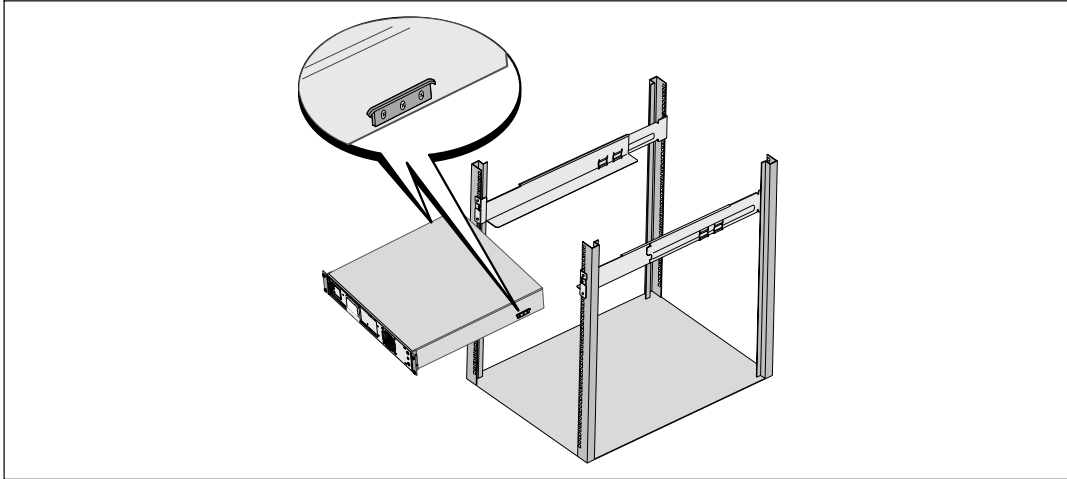

Figure 15. Installing the Cabinet
- 6 Slide the cabinet into the rack (see Figure 15). Repeat for any additional cabinets.